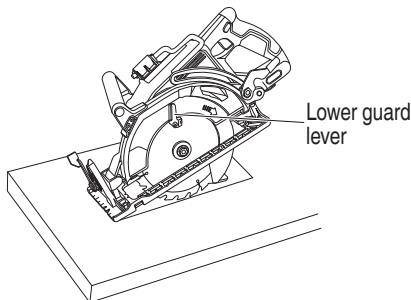

Fig. 31
(1) Mark the desired cutting area clearly with lines all side. (See Fig. 31)
- (2) Set depth adjustment according to material to be cut.
- (3) Push the lower guard lever all the way back so the blade is exposed as shown in Fig. 31.